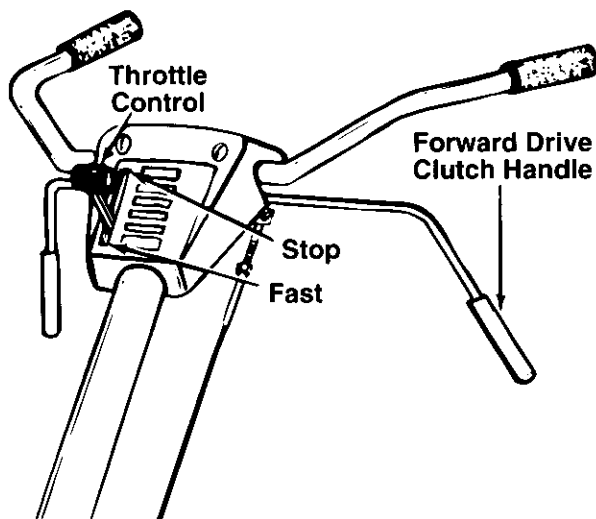

FIGURE 5.
The throttle control lever is located on the handle panel. It controls the engine speed and stops the engine. See figure 5.
The forward drive clutch handle is located beneath the tiller handle. See figure 5. Squeezing the handle up against the tiller handle engages the forward drive. Release the handle to stop the forward motion.
2. Make certain the forward clutch handle is in the neutral position (released). See figure 5.
3. Place the throttle control lever in FAST position. See figure 5.